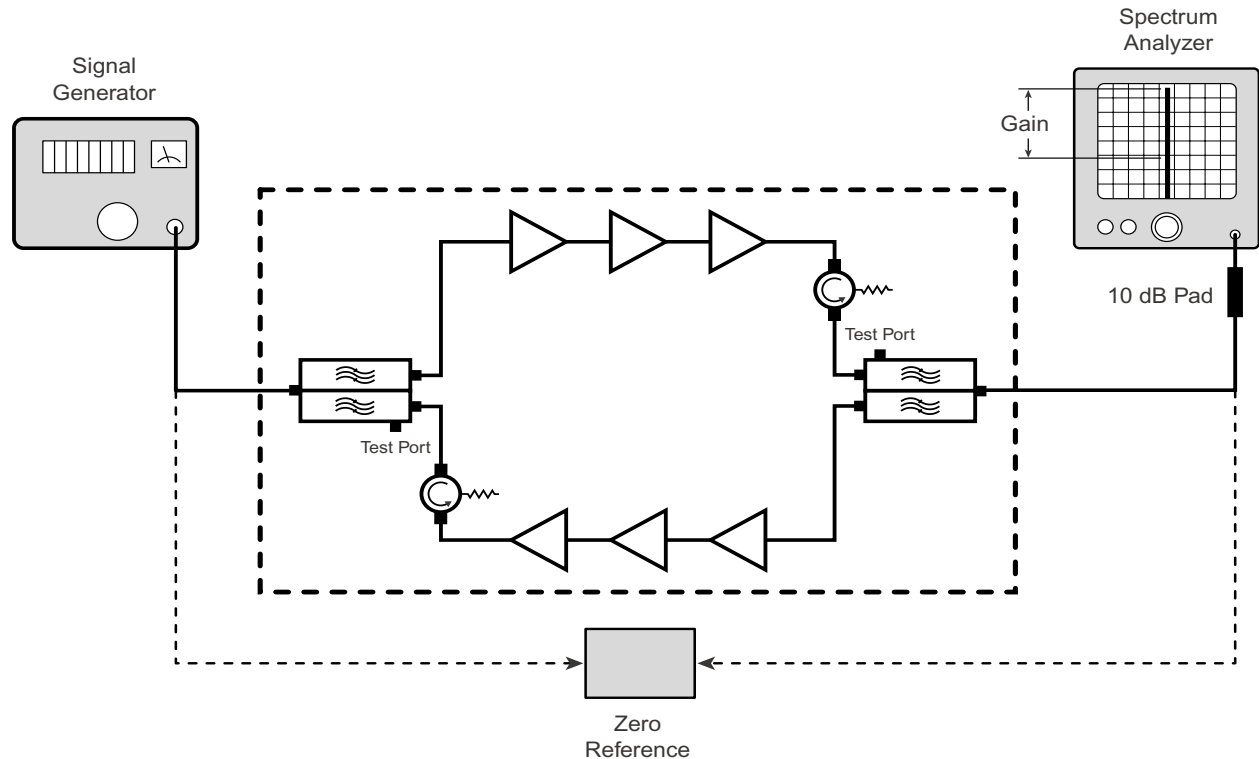

Figure 7: Test equipment interconnection for measuring signal booster gain.
- 1) Measure the gain of the signal booster being careful not to exceed the maximum input level. **Figure 7** shows this being done using a signal generator and spectrum analyzer. This is basically a substitution measurement. Record the measured values for each passband.